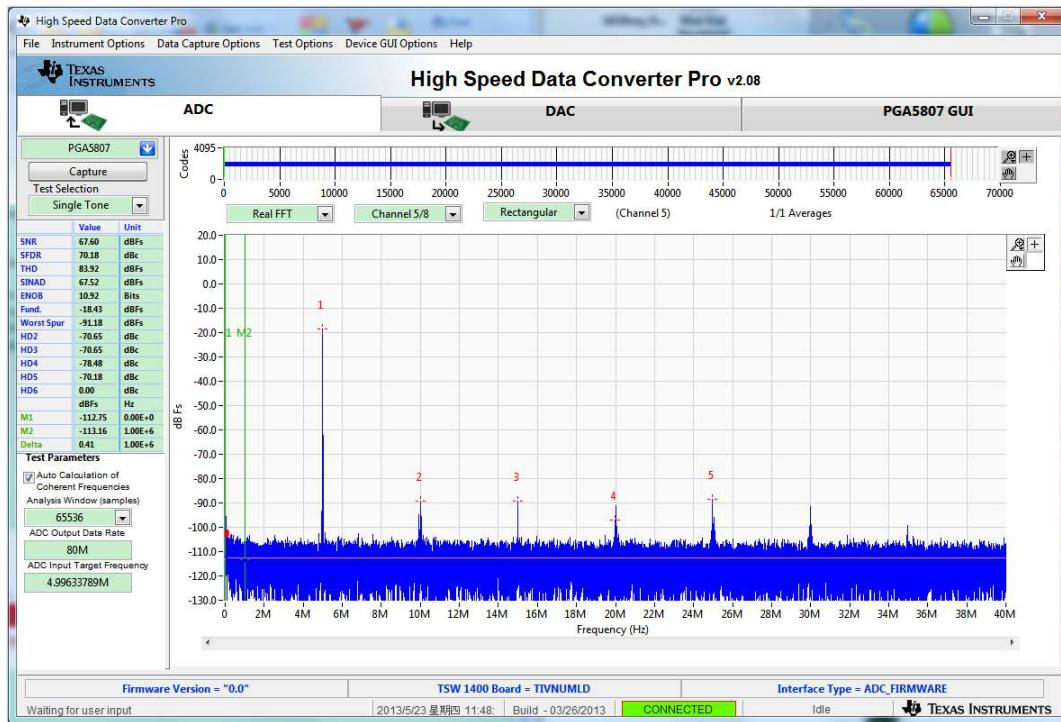

Figure 47. PGA5807A + ADS5296A Gain Test Capture 2
5. Clicking on the *ADC* tab and pressing *Capture* results in Figure 47. Take the difference in the *Fund.* value shown here to the previous capture. This difference should equal the difference in *PGA_GAIN* values between the two captures, or 18 dB. In this example, the difference is 17.4 dB.